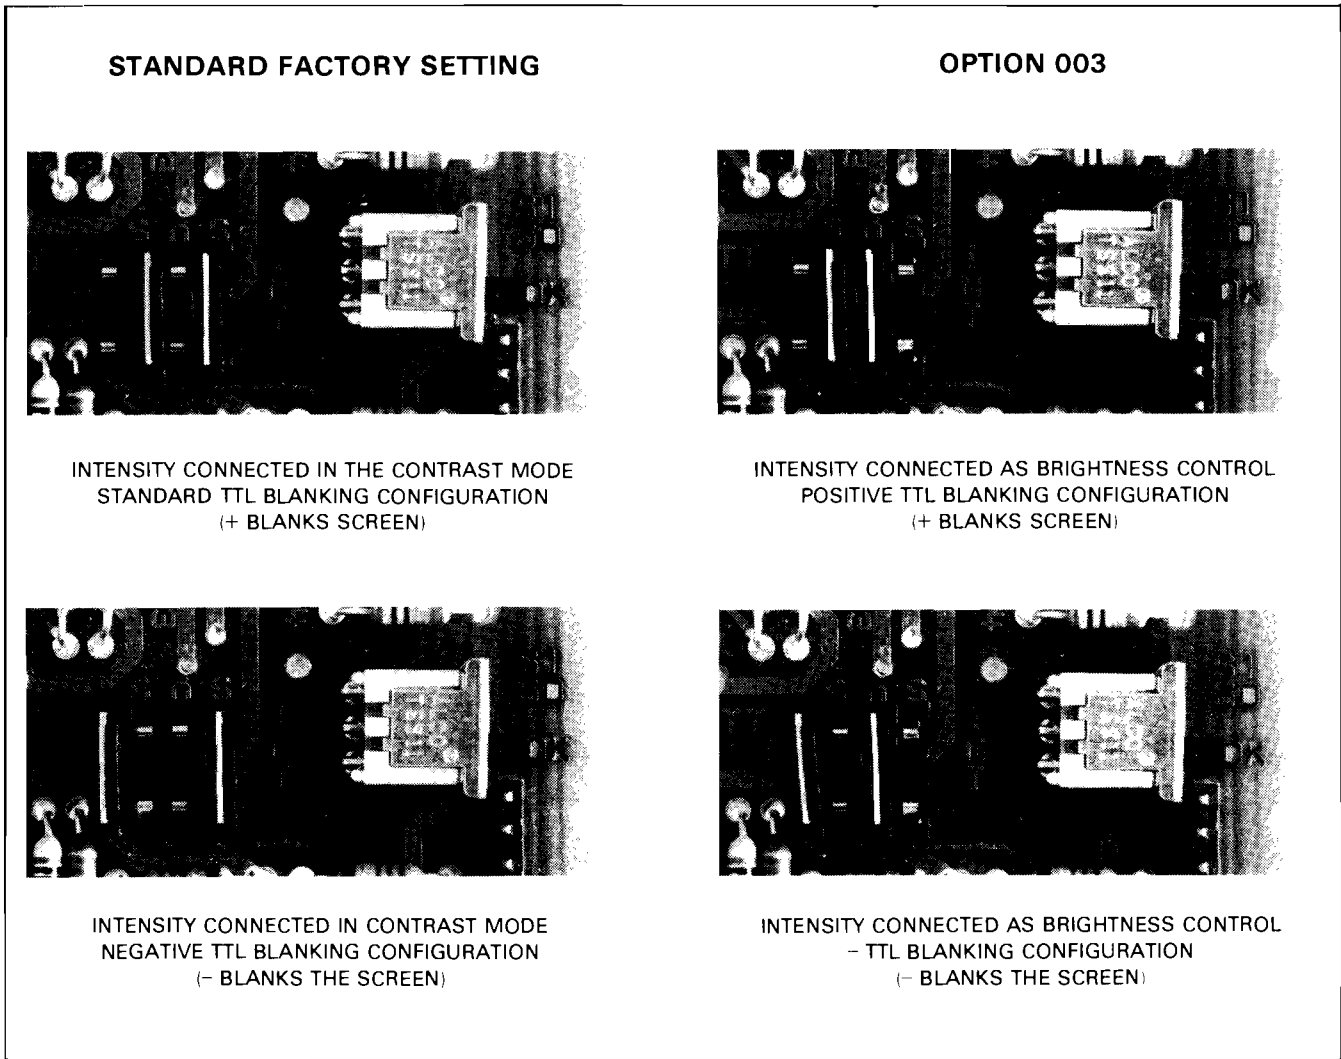

Figure 3-7. Jumper Connections for TTL Blanking and Intensity (A5E5-A5E8)
**3-29. TTL BLANKING AND INTENSITY MODES.** The TTL input may be connected for either negative or positive blanking. The standard configuration is positive blanking. The INTENSITY control may be connected in either the Standard mode (contrast) or the Option 003 mode (brightness) mode. Proper jumper connections at A5E5 through A5E8 for the different modes are shown in figure 3-7.